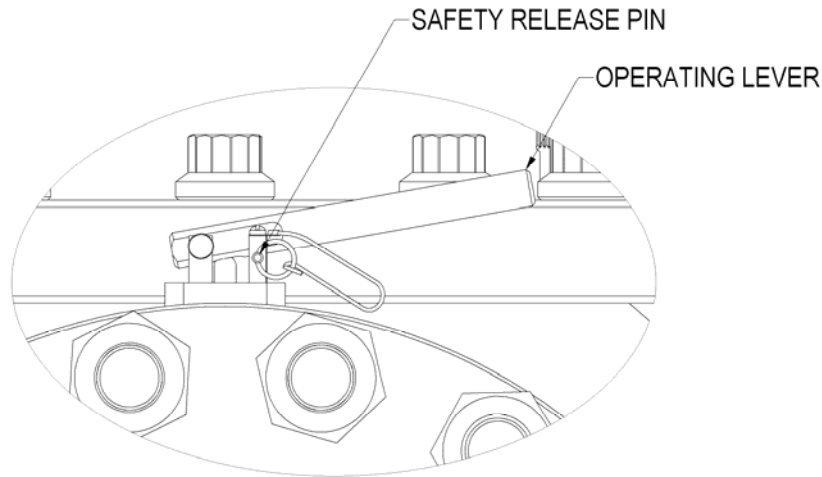

Figure 3: Argus Integral Equalization Valve
- 4) Ensure safety release pin is installed in the integral equalization valve (see Figure 3), preventing accidental operation during the pigging operation.
- 14) Equalize cavity pressure with the integral equalization valve (see Figure 3). Remove safety release pin and depress operating lever to energize cavity. Release the operating lever once the valve cavity has been energized and replace the safety release pin, locking out accidental operation.